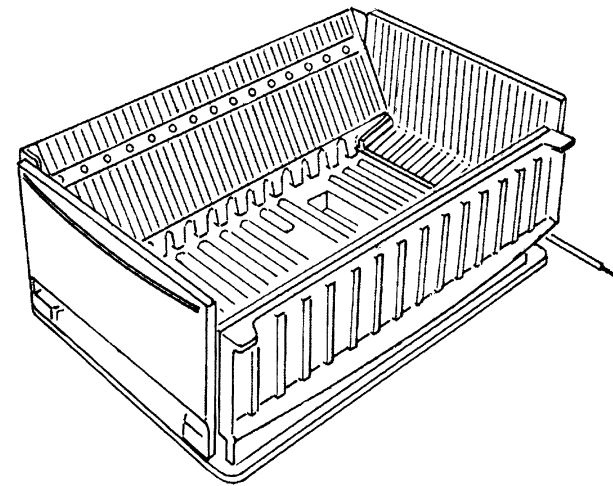

Fig. 5
2 DIAGRAM Fig 5
5. Fit the solid fuel grate, cradle and riddling arm. See fig.5 page 3